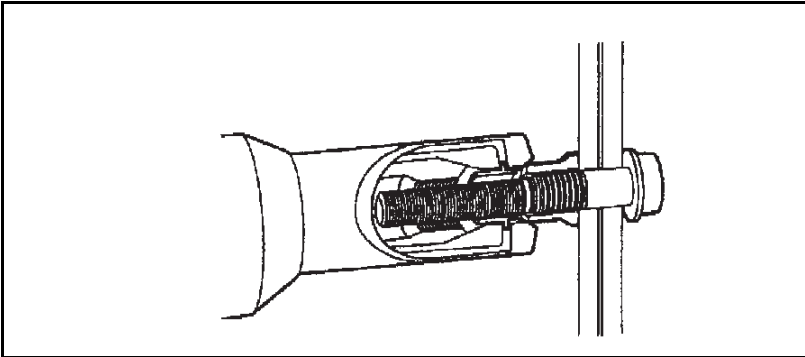

Figure 2.10 Place Installation Tool Over Fastener Pintail 01\_0020
- Place the Huck installation tool over the HP 8 fastener pintail (See Figure 2.10).